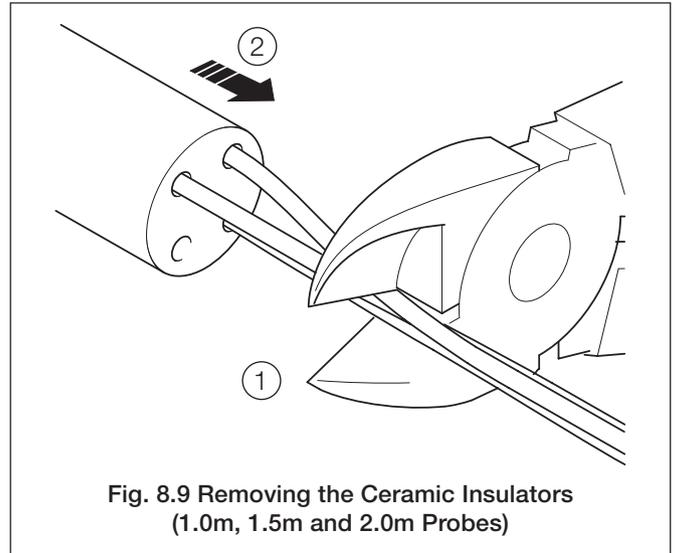

Fig. 8.9 Removing the Ceramic Insulators (1.0m, 1.5m and 2.0m Probes)
8.11 Re-assembling the Thermocouple/Electrode Lead Components (1.0m, 1.5m and 2.0m Probes) – Figs. 8.9 to 8.11
Referring to Fig. 8.9:
...8.11 Re-assembling the Thermocouple/Electrode Lead Components (1.0m, 1.5m and 2.0m Probes) – Figs. 8.9 to 8.11